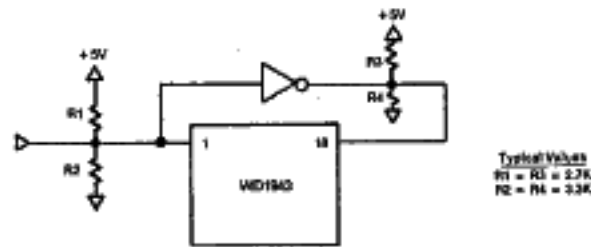

FIGURE 4. PULL-UP/PULL-DOWN RESISTORS TO MATCH IMPEDANCE
2. Add pull-up/pull-down resistor to match impedance, as shown in Figure 4.